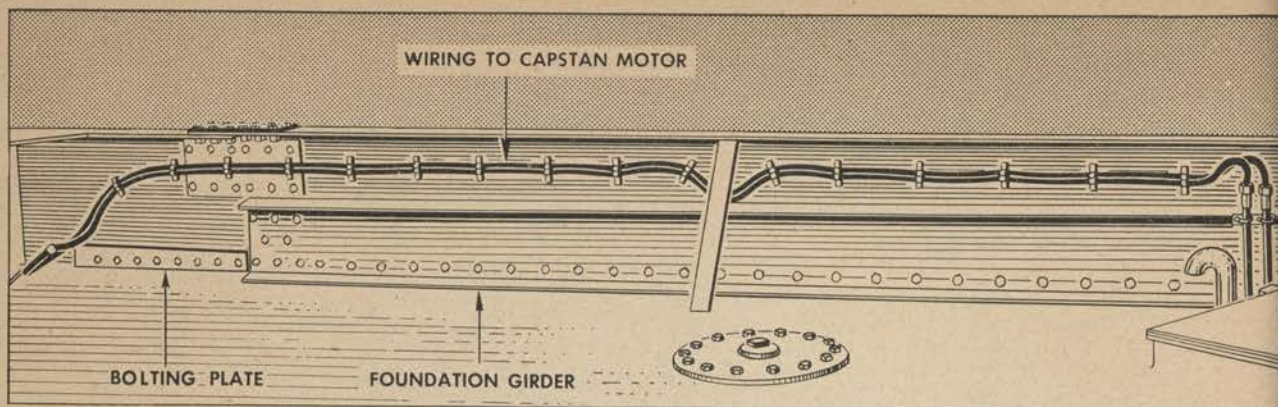

Figure 22. Detail of girder assembly to deck.
i. ERECTION OF FOUNDATION AND BRIDGING PLATES. (1) *General.* The foundation girders are attached to the barge by bolting to vertical bolting plates (figs. 22 and 24) which are each 4 inches high by $\frac{1}{2}$ inch thick and are welded to the barge deck on the $\frac{1}{2}$ -inch edge. For the boom foundation, the bolting plates are double parallel plates $\frac{5}{8}$ inch apart. For the diagonal and cross girders, single bolting plates are provided.
(d) Derrick foundation girders, port and starboard, are built up with a double web and the bolting plates for these girders are single plate. Lower the girders into position with the double web straddling the single bolting plates. Bolt the double web and the plate together, using galvanized steel bolts, $\frac{3}{4}$ -inch diameter, spaced approximately 6 inches apart. (See fig. 22.)